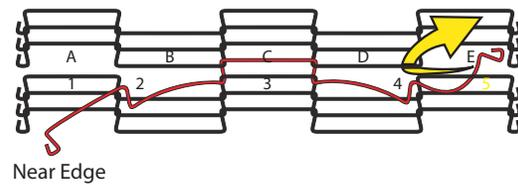

Figure 3
1. Bend one end of the wire up and insert it around the Z-bend in the next space on the edge of the wire closest to you (Space 5 on Figure 3). Always try to avoid bending the wire at the Z-bend!